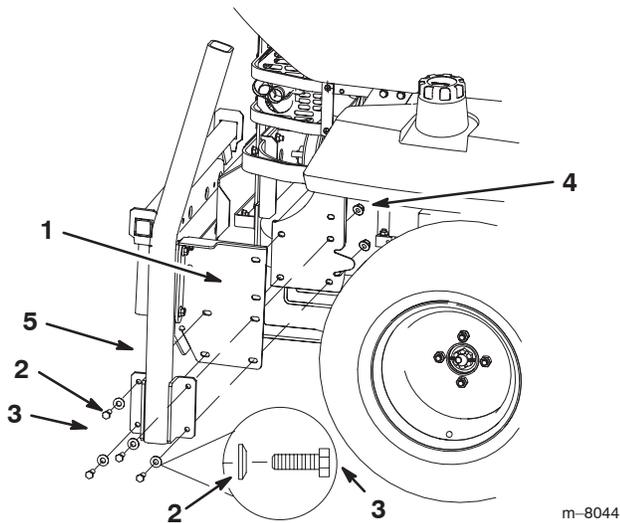

Figure 5
1. Remove the bolts, nuts and washers holding the rollbar to one side of the machine. Discard the bolts, nuts and washers (Fig. 5).
2. Install the bagger side plate and the roll bar section to the side of the machine using 4 bolts (3/8 x 1-1/2 inch), 4 curved washer (3/8 inch) and 4 flange nuts (3/8 inch) (Fig. 5).
Note: Make sure the curved washers are installed as shown in Figure 5.